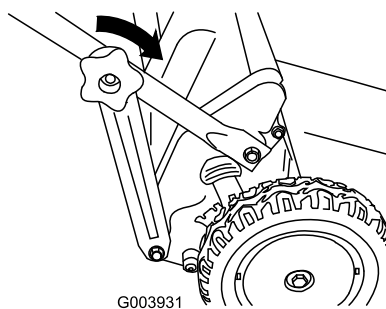

Figure 17
3. Install the lower handle knobs and tighten the knobs as tight as you can (Figure 17).